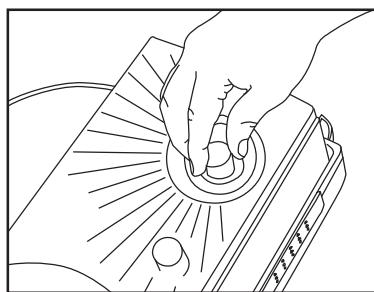
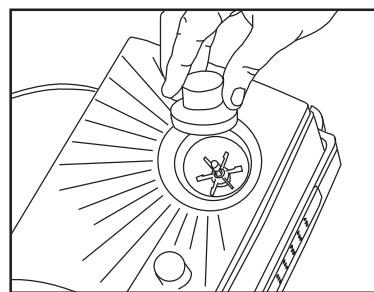

fig 23
fig 24
- Turn the head of the filter and unscrew the lid of the motor as indicated in figure 23. Take out the rotor from the holder (fig.24) and clean it, using a brush if necessary.